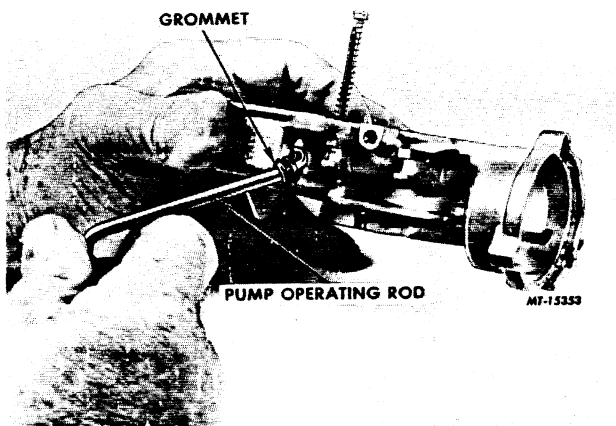

FIG. 21 Remove or Install Accelerator Pump Operating Rod and Grommet
6. Rotate the pump operating rod and remove the rod and grommet from the bowl cover (Figure 21).